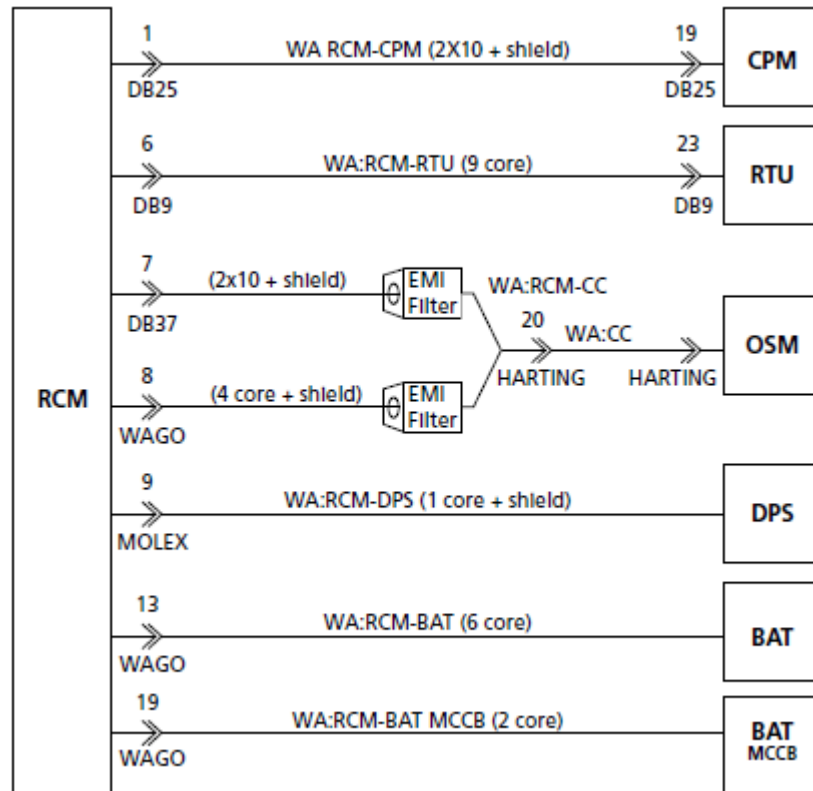

Figure 77
- 3) Connect the wiring to the RCM according to the wiring assembly diagram (Figure 77).